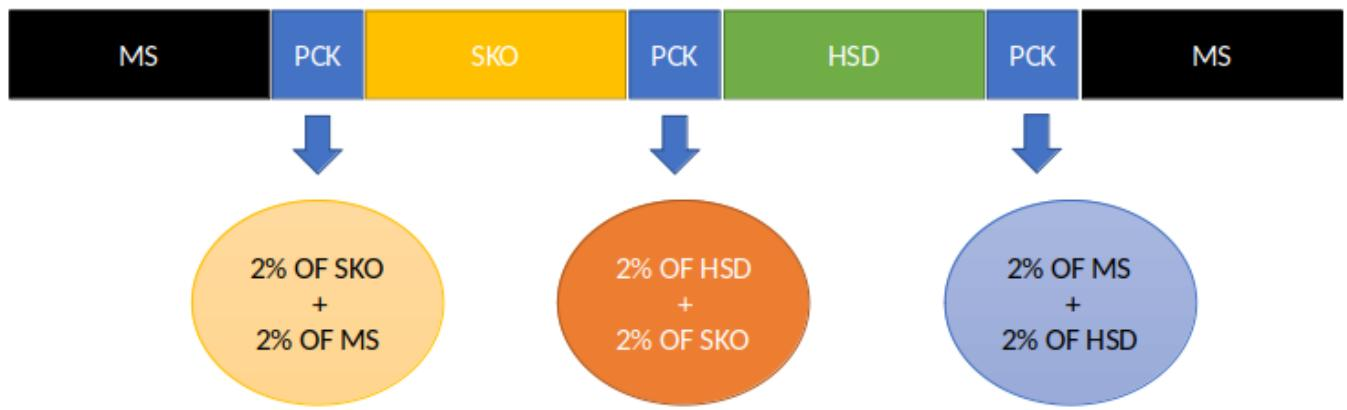

Figure 2.1: Interface cutting norms
- KAPL (Koyali- Ahmedabad Pipe Line) = Dedicated ATF pipeline which supplies the whole of Gujarat and parts of Rajasthan. Then interface cutting (See Fig 2.1) is done by the pipelines division at the exchange pit and supplied to the terminal via pipelines.